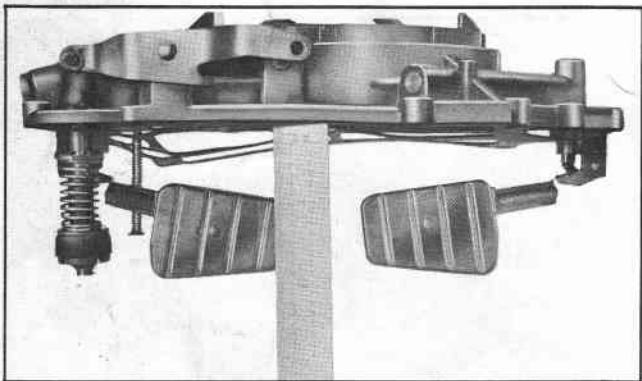

Fig. 9 Checking Float Drop
- (1) With float held in an upright position, check distance between air horn with gasket in place and the toe of float at end of radius as shown in Fig. 9. Float drop is correct when this distance is $1-13/16'' + 1/32''$. Note that this gauging is done at the toe of the float and NOT at the heel as shown in the 1957 Shop Manual.
- (2) If adjustment is necessary, bend float tang toward float needle seat to lessen drop and away from seat to increase drop.